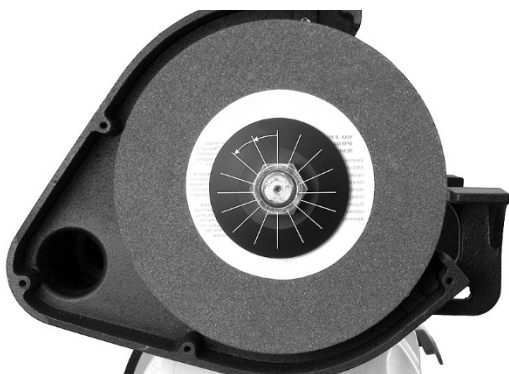

Figure 10-3: wheel balancing
2. If wobble still exists, continue repeating step 1, rotating outer flange incrementally in the same direction. See Figure 10-3. Make sure to keep the wheel in the same position each time.